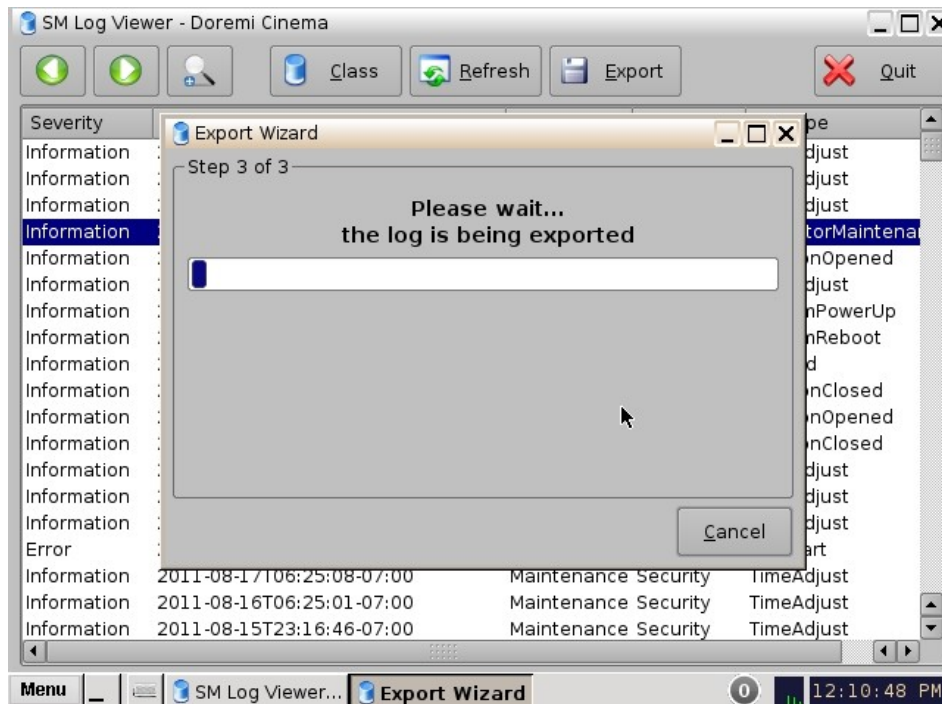

Figure 139: SM Log Viewer Log – Export
- The following window will appear: The log will be exported (Figure 139).